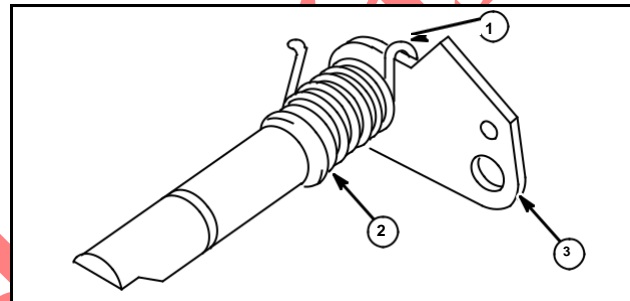
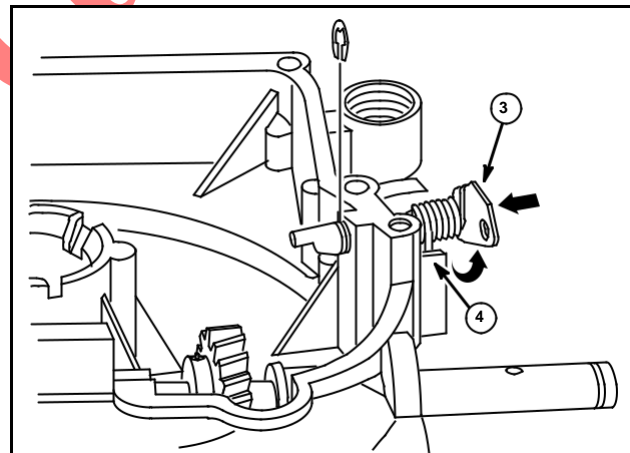

Fig. 61
Fig. 62
1. Install return spring (1) on shaft and lever assembly (3) as shown in Fig. 61.
2. Install "O" ring seal (2) on shaft.
4. Slide control lever assembly (3) into shaft bore, Fig. 62, as far as it will go.
6. When lever clears stop boss (4), push lever and spring in until lever stops.